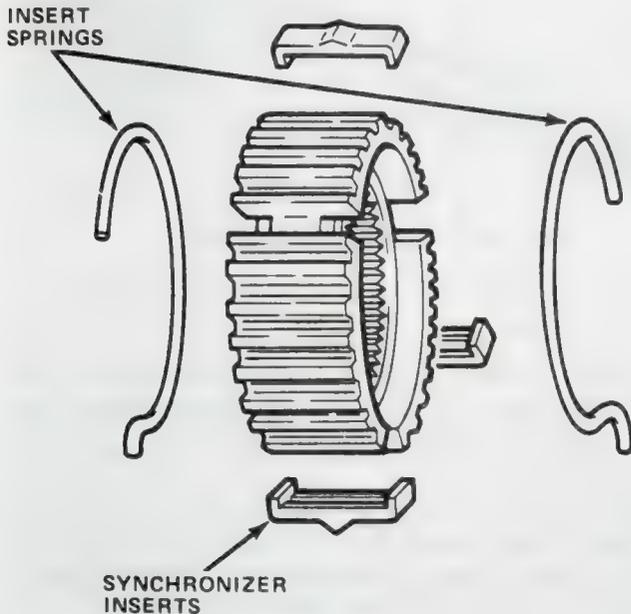

Fig. 2B-38 Third-Fourth Synchronizer Spring Installation
(13) Measure third-fourth synchronizer end play using feeler gauge (fig. 2B-39). Insert gauge between output shaft snap ring and third-fourth synchronizer hub. End play should be 0.1016 to 0.3556 mm (0.004 to 0.014